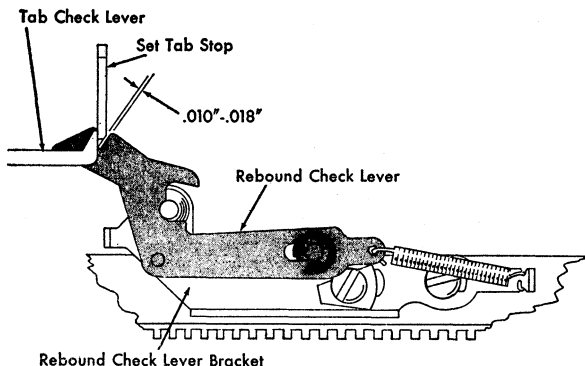

Figure 34. Tab Rebound Check Lever Adjustment
- a. The rebound check bracket is adjusted two ways: Position the bracket left or right so that the right edge of the V-slot of the rebound check lever clears the right-hand face of any set tab stop by $.010$ " to $.018$ " when the left-hand face of the stop has pushed the tab check lever to the extreme left (Figure 34). At the same time the bracket should be positioned front or rear so that, when the rebound check lever is in its operated position and against the pin in its bracket, the leading edge of the rebound check lever is even with the tip of the tab check lever or is $.005$ " farther to the rear. The bracket can be conveniently adjusted for both conditions simultaneously. Set a tab